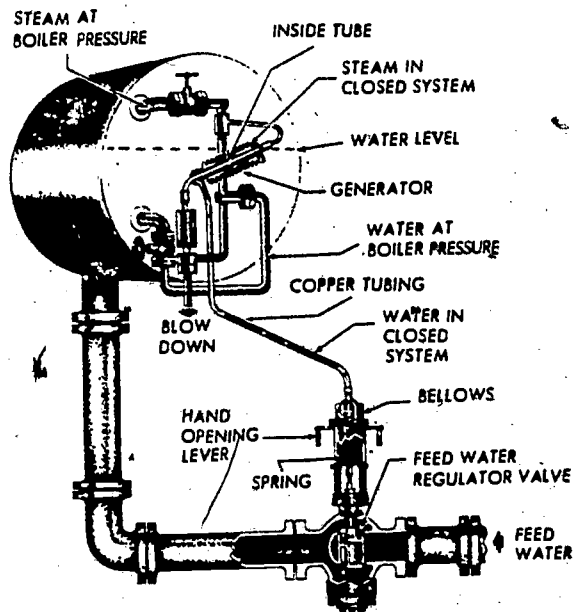

Figure 9. Thermohydraulic water-level control.
11. **Thermohydraulic Water-Level Control.** Another water-level control is the thermohydraulic type, also commonly called a *regulator*. This unit is made up of a generator and a regulating valve, as shown in figure 9. The generator consists of an outside tube and an inside tube. The outside tube is filled with water, except for some space left for the generation of steam. This outside tube also has fins on the exterior to increase its cooling rate. The outside tube is connected by other tubing to a bellows in the regulating valve. This makes it a closed system. The inside tube is connected to the boiler shell in much the same way as a water column or a gage glass. The regulator is mounted at the boiler water line; therefore, the inside tube contains both steam and water.
13. When the water level rises, less steam goes into the inside tube. The tube then cools and less heat is transferred to the outside tube. The steam in the outside tube cools and condenses from steam to water, thus relieving the pressure on the bellows in the regulating valve. When the pressure on the bellows is removed, the regulating valve closes. This shuts off the water to the boiler. The closing of the valve is accomplished by the spring located in the valve body, which is shown in figure 9.